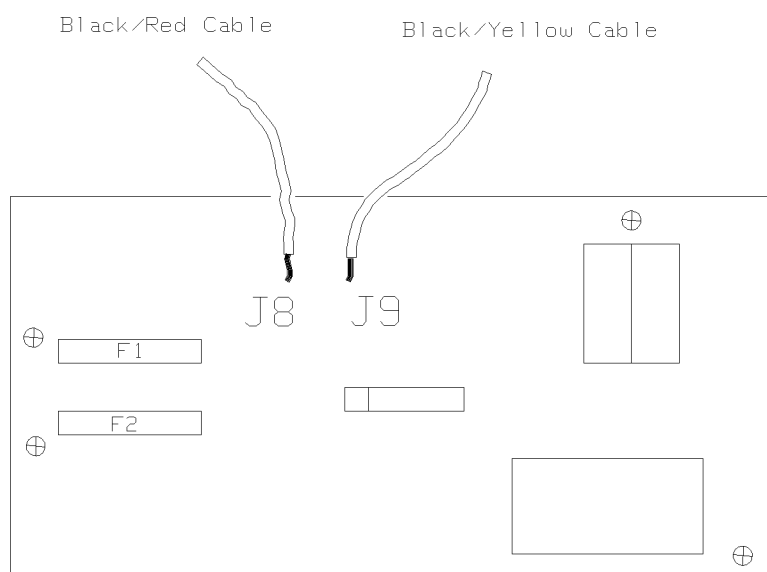

Figure 6-15. Power Option Board - Miniframe.
1. **reposition the cables on connectors J8 and J9 - Power Option Board (Refer to Figure 6-15).**
2. Refer to Figure 6-15: